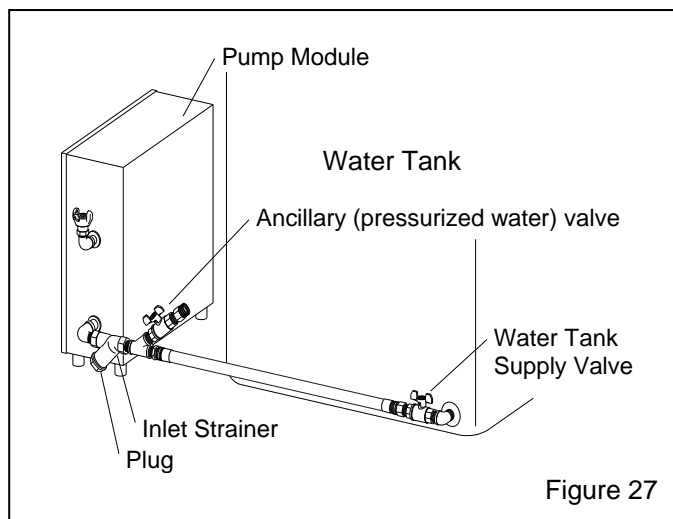

Figure 27
6.6.1 Water freezes and expands at 32° F. When shutting down be sure to drain the water tank; refer to Figure 27 and open the water tanks supply valve and ancillary water valve to allow for expansion. Drain all water from the pump module by removing the plug on the inlet strainer.